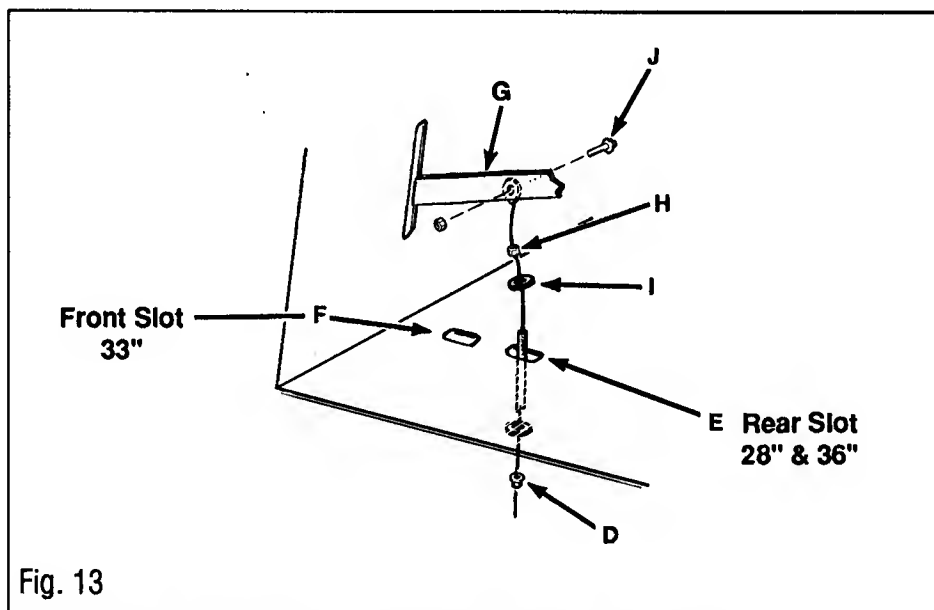

Fig. 13
1. Thread nut (D, Fig. 13) downward on cable threads until it stops.
2. Thread nut (H) and washer (I) upward and off cable assembly.
3. **28" & 36" DECKS ONLY:** Insert cable, nut (H) and washer (I) upward through rear slot (E) in frame.
4. **33" DECKS ONLY:** Insert cable, nut (H) and washer (I) upward through front slot (F) in frame.
5. Place nut (H) and washer (I) at top of slot and screw down tightly, securing cable assembly to frame.
6. Connect cable to the mower blade drive (PTO) lever (G). Fasten cable to the right side of PTO lever when facing toward front of rider. Secure with screw (J) and nut as shown in Fig. 13. Tighten screw, but allow some play so cable may pivot.